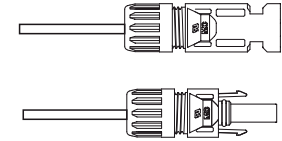

Figure 3.21 Connector with Cap nut Screwed on
4. Insert metal connector into top of connector, and tighten nut with torque 3-4 Nm (see figure 3.21).